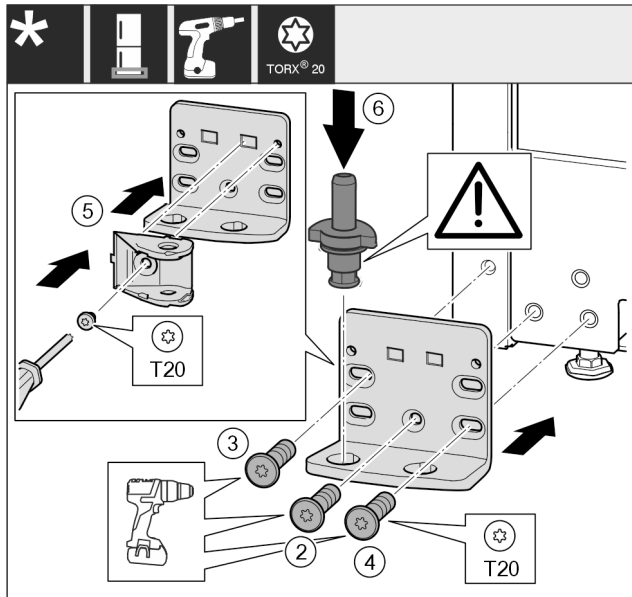

Fig. 18 *
- ▶ Place the bearing bracket on the other side and screw it in using the T20 screwdriver. Start with screw 2 at the bottom in the middle. Fig. 18 (2)*
- ▶ Screw in screws 3 and 4. Fig. 18 (3,4)*